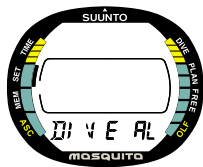

Fig. 4.10. Dive Alarm Setting Mode.
1. In the Setting Mode [SET], press **S** four (4) times to select the Dive Alarm Setting Mode (Fig. 4.10.).